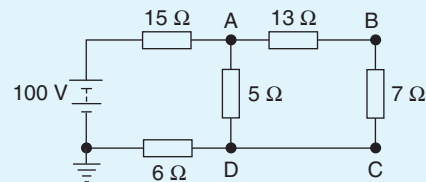

Figure 5.51
1. For the circuit of Fig. 5.51, calculate (a) the absolute voltage at points A, B and C, (b) the voltage at A relative to B and C and (c) the voltage at D relative to B and A.